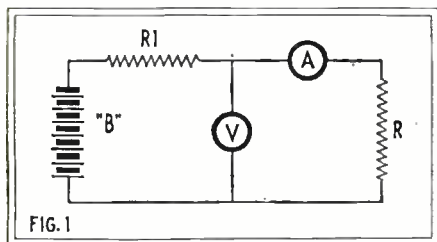

FIG. 1
A hypothetical diagram (Fig. 1) gives an example of how currents of different frequencies may be separated by means of choke coils and by-pass condensers in combination (filters). In the complete circuit (A), of this illustration, L1 is a transformer with a primary winding P and a secondary winding S; B is a battery; RFC a radio-frequency choke coil; AFC an audio-frequency choke coil; and C1 and C2 are by-pass condensers, small and large respectively. In this circuit a current composed of two different frequencies is induced in the secondary winding of the transformer by the primary winding which, we will say,
The circuit action is further analyzed in detail at B, C and D (Fig. 1), which show more clearly how the three different currents were separated. B is the path of the R.F. current, which is unable to pass the R.F. choke coil; C is the path of the A.F. current, which is unable to pass the A.F. choke coil; and D is the path of the direct current, which is unable to pass through the by-pass condensers C1 and C2.
In the laboratory, the most frequent use of Ohm's Law is for measuring the resistance of circuits or instruments. Fig. 1 illustrates the circuit used for this purpose: in this case R is the resistance to be measured, V is the voltmeter which measures the potential or voltage across R, and A the ammeter measuring the current flowing in the circuit. B is a battery which provides the current, and R1 represents all other resistance in the battery circuit, such as that of wires, connections, etc., and even of the battery itself.
To illustrate how Ohm's Law is used, practical values will be given for the voltage and the current in the circuit of Fig. 1. If E (the voltage) is equal to 9 volts and I (the current) is equal to 0.5 amperes, then the resistance is equal to 9 divided by 0.5, or 18 ohms, by formula (3). (To divide by a decimal fraction, of course, the easiest way is to add to the number divided as many ciphers as there are figures pointed off in the fraction, and consider the fraction as a whole number; 90 divided by 5 is 18.)